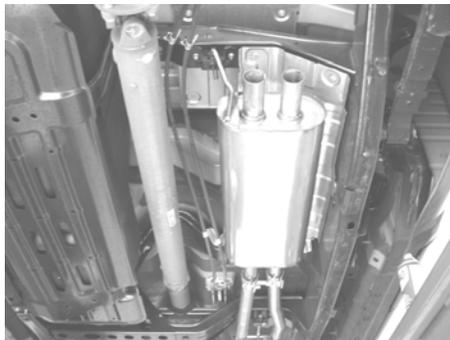

**Figure 7**
1. Using the original hardware and gasket, place the left front pipe assembly into position as shown in figure 7 making sure to install the ground strap. Hand-tighten the hardware for now.